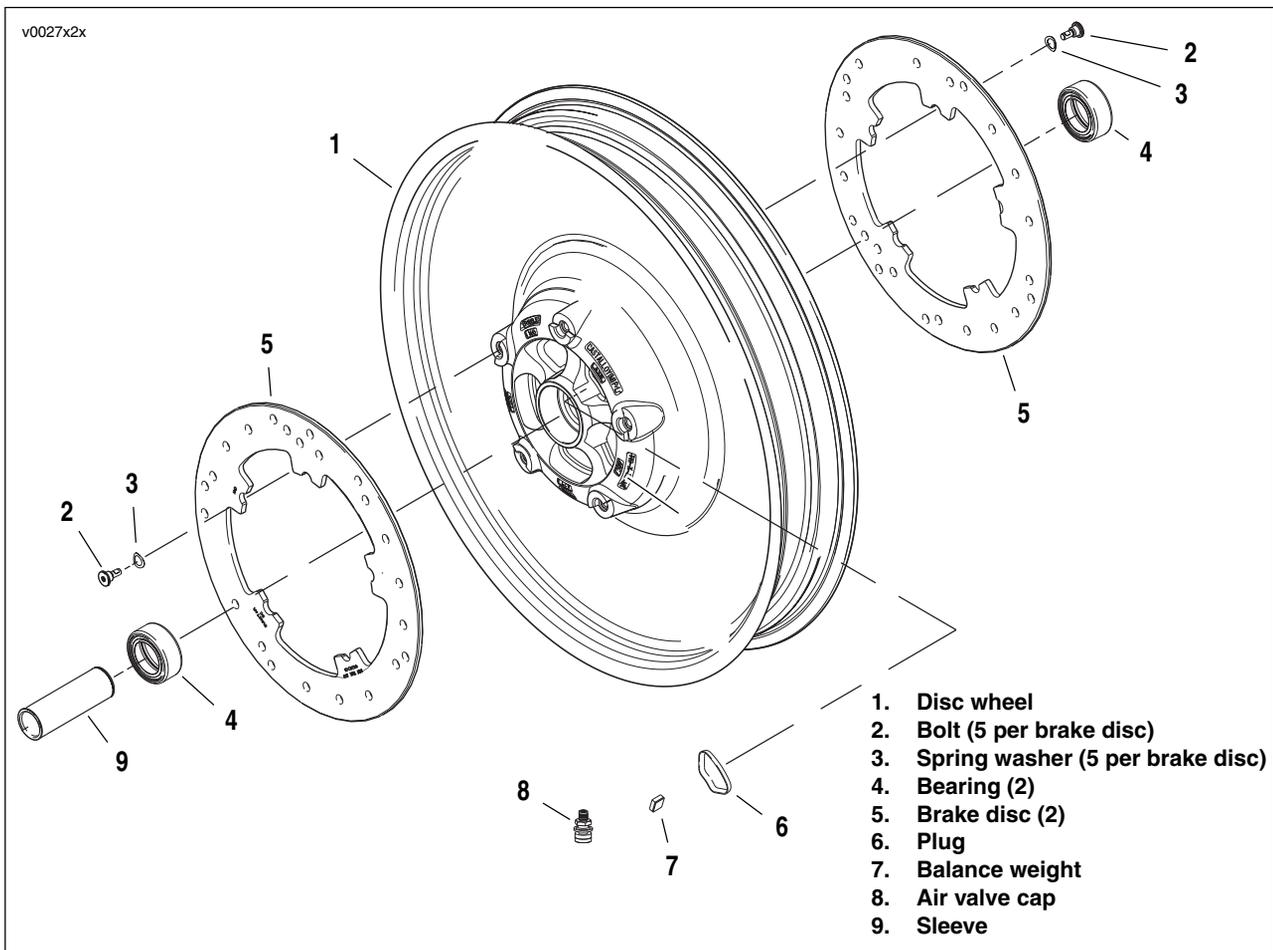

Figure 2-66. Front Wheel Components
5. See Figure 2-66. If removing brake discs (5), remove five bolts (2) and spring washers (3) securing brake disc to the wheel (1). Repeat procedure to remove disc on opposite side of wheel. Discard bolts and spring washers.
4. See Figure 2-66. If necessary, install brake discs in their original positions. Verify that brake disc is clean.
- a. On left side of wheel, install five **new** bolts (2) and five **new** spring washers (3) to attach left brake disc. Tighten bolts to 21-31 Nm (16-23 ft-lbs).
- b. On right side of wheel, install five **new** bolts (2) and five **new** spring washers (3) to attach right brake disc. Tighten bolts to 21-31 Nm (16-23 ft-lbs).